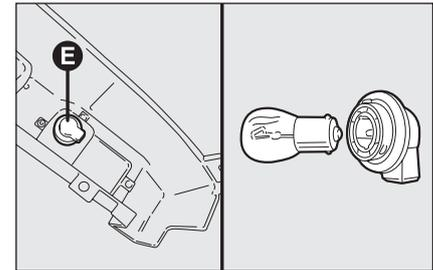

fig. 30d
- turn bulb holder **E** anticlockwise (1/8 turn), remove the bayonet bulb by pressing in slightly and turning anticlockwise, then replace fig. 30d.